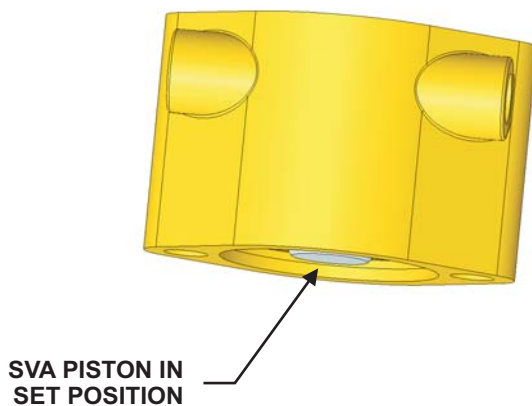

Figure 5-23. SVA in 'Set' Position
3. Check all of the SVA pistons to ensure that they are in the set position. The bottom surface of the piston must be in the body of the SVA. If it is in the released position, push the piston into the body of the SVA (see Figure 5-23).